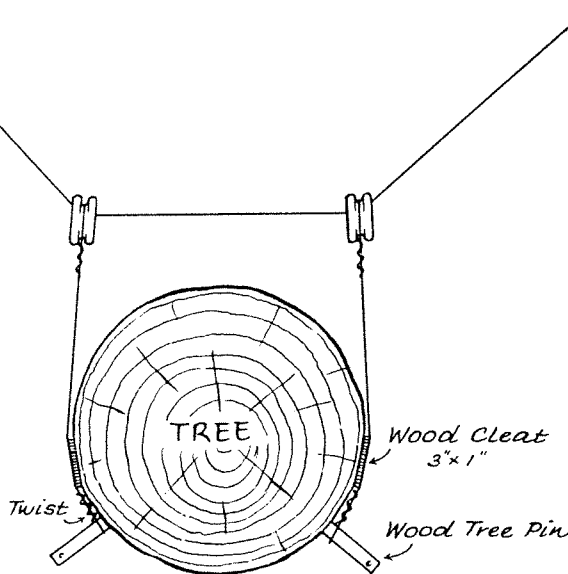

Fig. 4.
30. A still sharper angle, *i.e.*, anything less than 145 degrees, should have a double insulator tie. (See Fig. 4.)